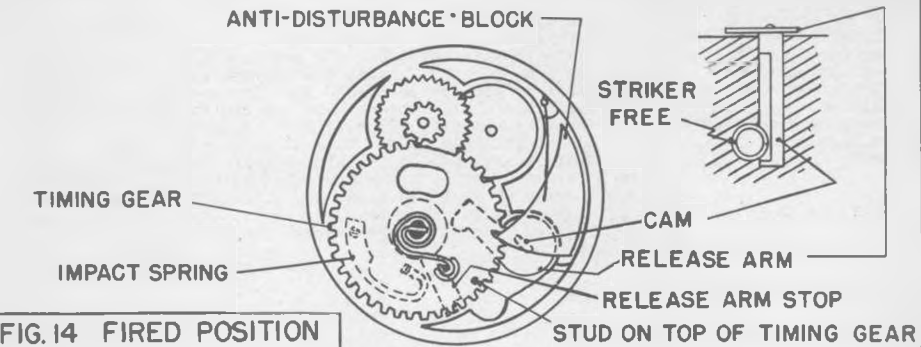

FIG. 14 FIRED POSITION
(3) Should the fuze now be subjected to handling, shock, or vibration, the projection on the anti-disturbance block and the stud above the timing gear would become disengaged. The timing gear can thus make its final run, this time until its blank segment permits it to slip by the small gear (with which it was previously engaged) with increased momentum. During this last swift movement, the stud under the timing gear strikes the release arm stop, moving it away from the release arm, and the spring-loaded striker can now rotate the release arm cam as the release arm is freed. The cam is forced around in a clockwise direction, permitting the striker to slip by and fire the detonator cup, initiating the booster, as in Fig. 14.